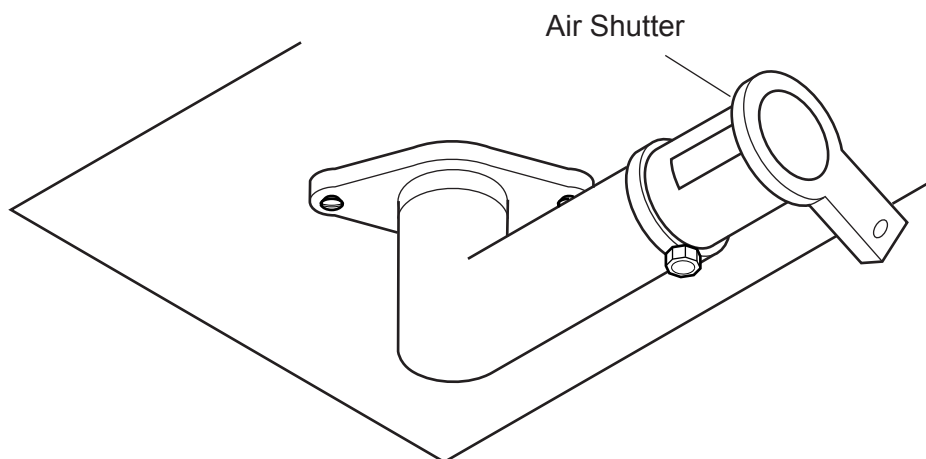

Figure 38 - Push Adjustment Lip Up to Open Air Shutter
- To increase air mixture, open the shutter more. This will reduce soot formation. *See Figure 38.*